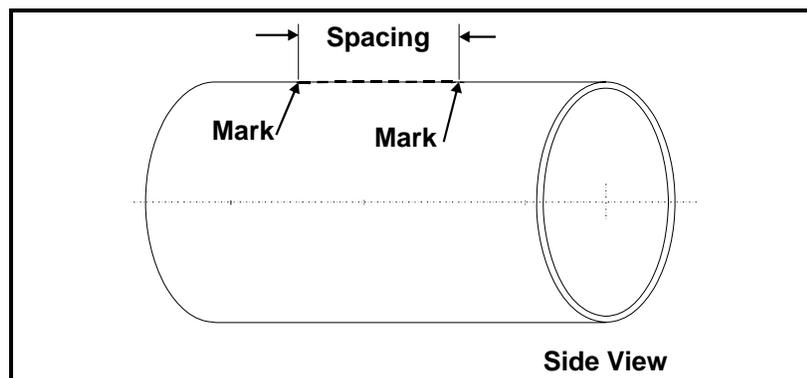

Figure 16: Marking Transducer Spacing
5. Make two marks (shown in Figure 16 below) on the line equal to the transducer spacing distance S , as calculated by the meter.